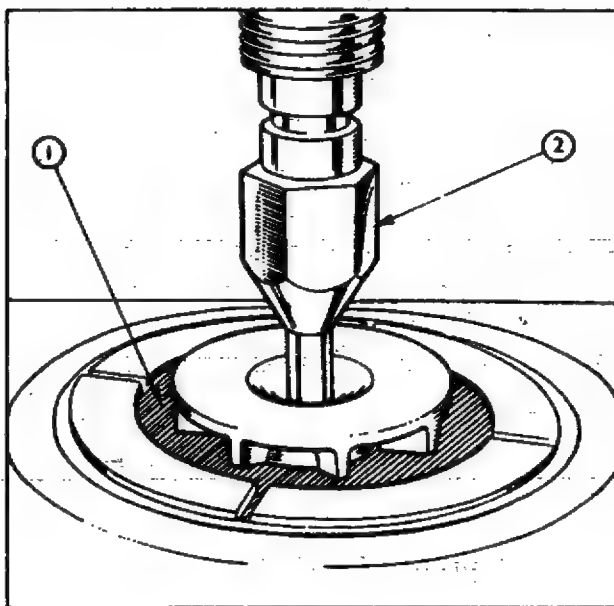

Fig. 10.
5. Press the impeller off the end of the shaft, using adaptors CPT.8000—2 detail "b" and CPT.8000—3 detail "d" as shown in Fig. 10.